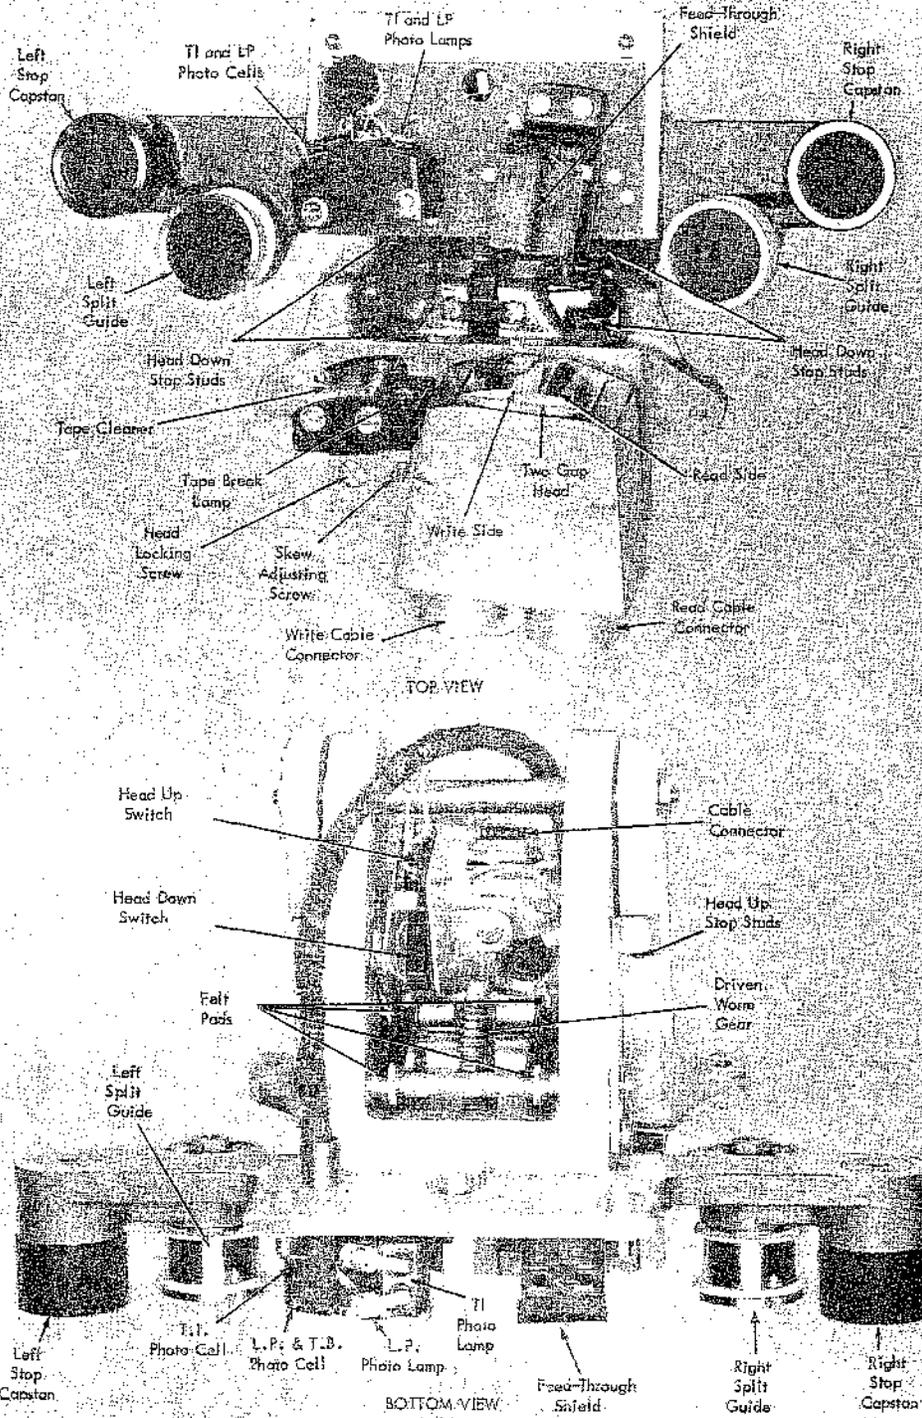

Figure 3-1. Head Assembly, Top and Bottom Views
3.1 Head Assembly (Schreib-Lesekopf-Einheit) Abb. 3-1